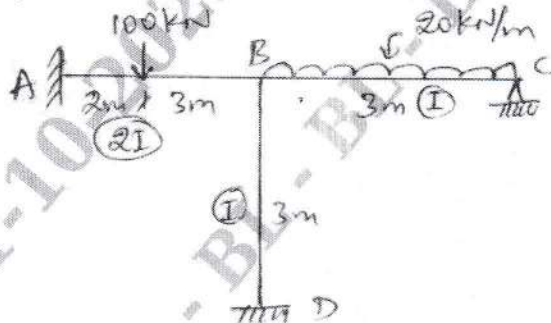

Fig. Q8
**Q.8** Analyze the rigid jointed plane frame using stiffness method. Draw BMD and SFD. Refer Fig. Q8. 20 L4 CO2